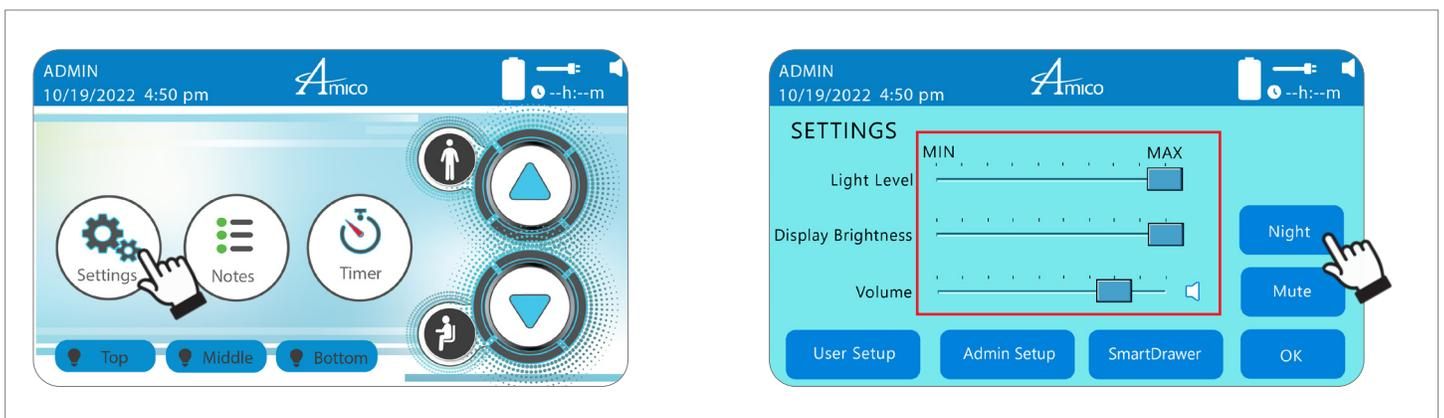

Figure 56
1. Tap on **"SETTINGS"** (Figure 56).
2. Select slider to adjust **LIGHT LEVEL**, **DISPLAY BRIGHTNESS**, or **VOLUME** (Figure 56 right).